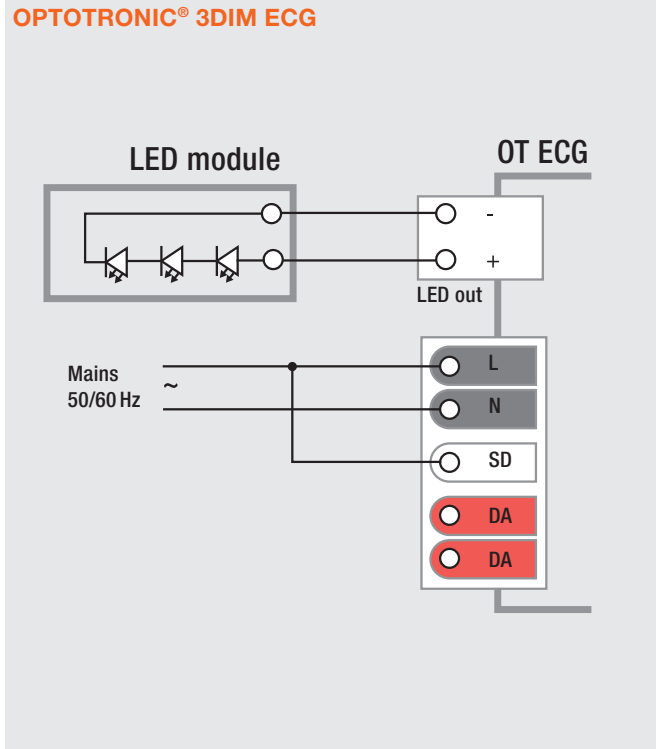

Figure 21: Wiring for AstroDIM operation – OPTOTRONIC® 3DIM ECG.
When the AstroDIM function is selected by providing a permanent connection (jumper wiring) between line (L) and the SD terminal of the ECG (see figures 21 and 22), the ECG starts and ends dimming on its own (autonomous operation). It is controlled only by the mains power switch and no additional control lines are required.